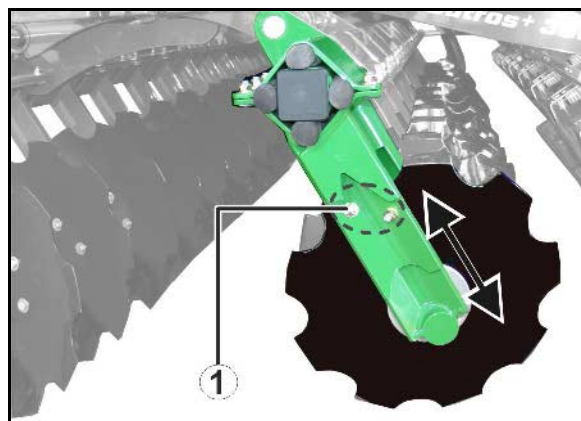

Fig. 48
6 insertion holes are available for this purpose. (Fig. 48).
3. Release clip pins (Fig. 48/1).
4. Insert eccentric pins (Fig. 48/2) into the desired insertion hole.
- A preferential insertion hole is marked with an arrow (Fig. 48/3).